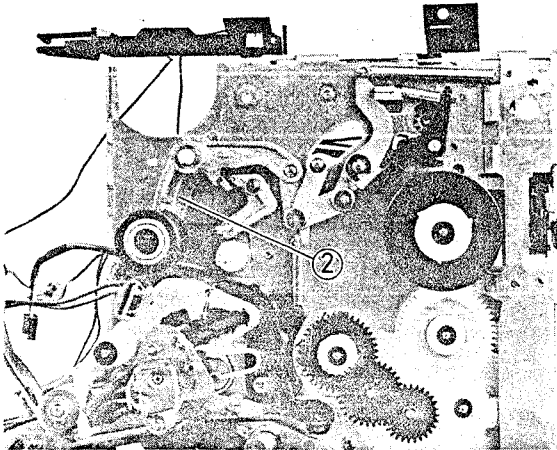

Fig. 2-94 Pressure Roller Removal
Pressure Roller Arm Removal (Fig. 2-94)
2. Pull out the pressure roller arm. (See Fig. 2-94)